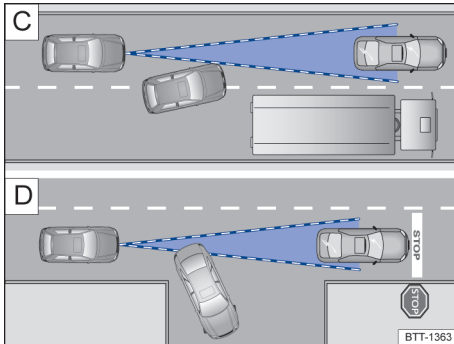

Fig. 95 [C] Vehicle that is changing lane. [D] Vehicle that is turning or stationary
If a vehicle detected by the ACC turns or leaves its lane and there is a stationary vehicle ahead, ACC will not react to the stationary vehicle → Fig. 95[D].
- Vehicles switching from the adjacent lane in front of the vehicle → Fig. 95[C].